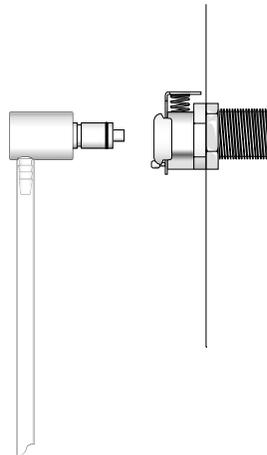

Figure 11. Quick-Disconnect Fitting
- 2 Connect the open end of the Quick-disconnect fitting (see Figure 11) to the gas inlet on the lower-left side of the workstation (see Figure 12).